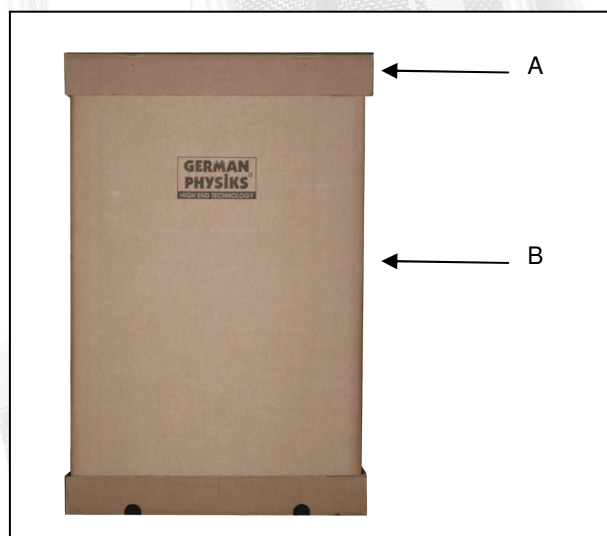

Figure 1. Unicorn Mk II Shipping Carton
Each Unicorn Mk II is supplied in an individual shipping carton. Both external networks are packed together in a third carton. The Unicorn Mk II cartons must be kept upright as shown in figure 1. Before opening the cartons, please inspect them for damage. If you see any damage, please contact the supplying audio dealer immediately and provide them with a full description of the damage. Do not attempt to unpack the cartons until you have spoken with the dealer and have been advised how to proceed.
1. Remove the top of the carton – item A in figure 1.
2. Remove the foam packing piece from the top of the main body of the carton - item B in figure 1.
3. Lift off the main body of the carton – item B in figure 1. Make sure that you have sufficient clearance between the top of the carton and the ceiling above.